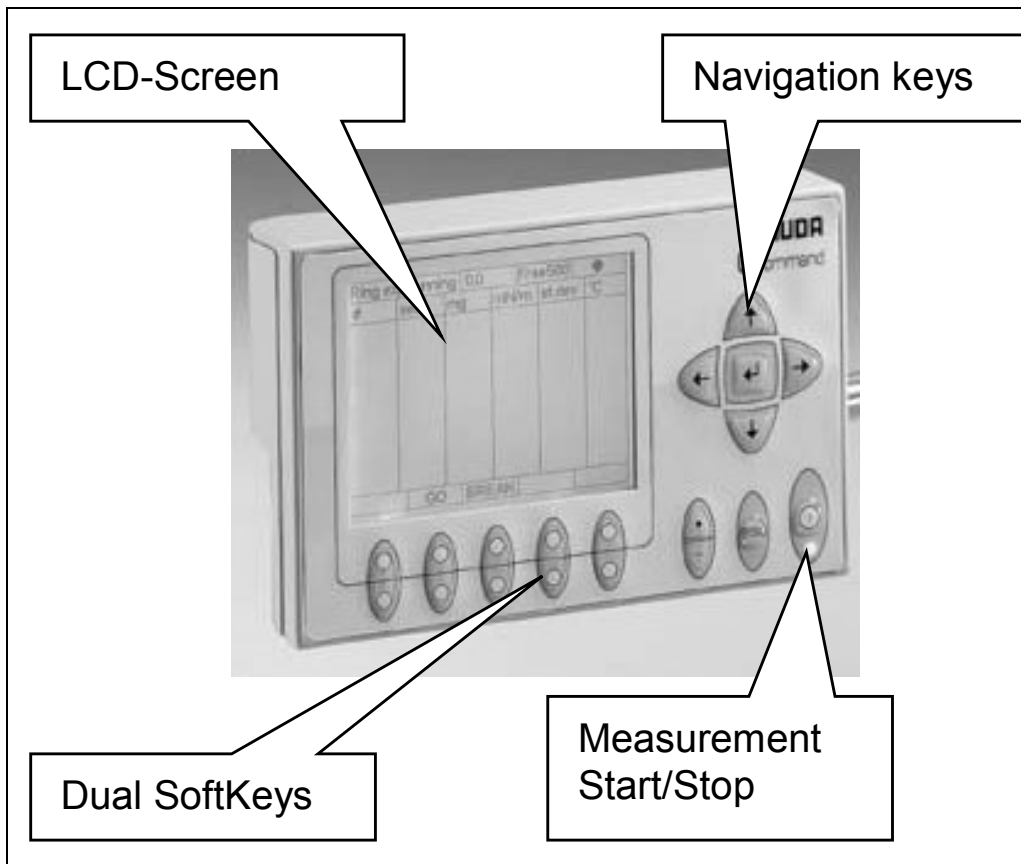

Fig. 3 Parts of the COMMAND-unit
7. After checking all connections the TD 1C can be switched on at external power supply. The information screen appears (Fig. 3)
MENU	Screen switches to the Main Menu (Fig.3)